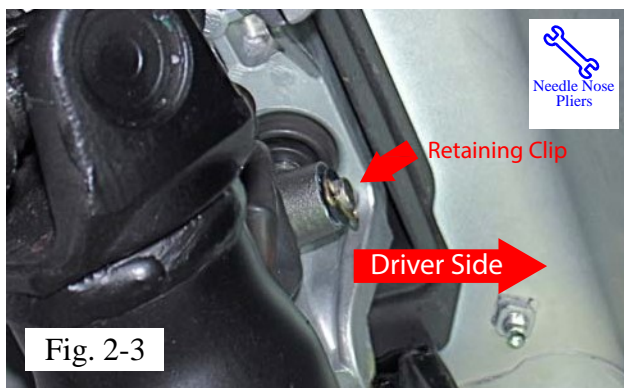

Fig. 3-1
- (a) Install the box portion (Item 3a) of the 2 pc. boot over the shift lever lower housing with the rectangular opening facing the front of the vehicle. The round hole in the Boot 3a needs to be pulled/peeled over the OE shift lever lower housing. (Fig. 3-1)
**Note:** Components shown in Fig. 3-1 are off vehicle for clarity purpose only.